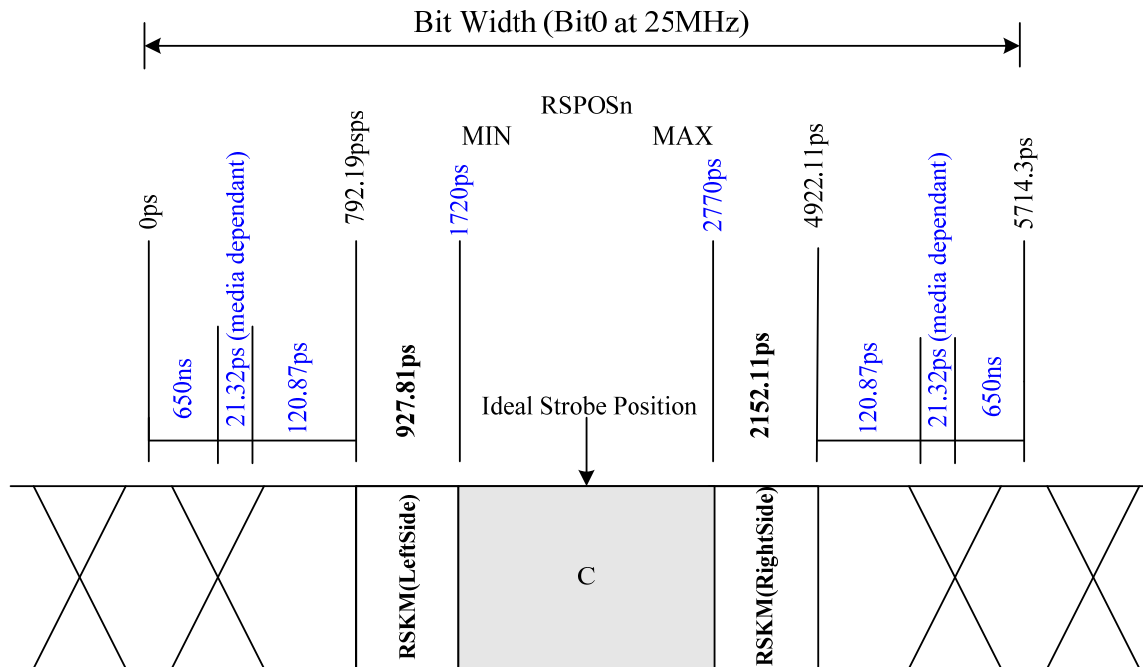

Figure 4. EXAMPLE Bit0 RSKM calculation diagram
**D:** For this example assume temperature is 25°C, VDD=3.3V, the Serializers jitter is estimated using Figure 4 below. Please note that jitter for the UT54LVDS217 varies little over temperature, so the data at 25°C provides a sufficient estimate.
Plugging variables A, B, C, and D to the RSKM budget, Figure 4: